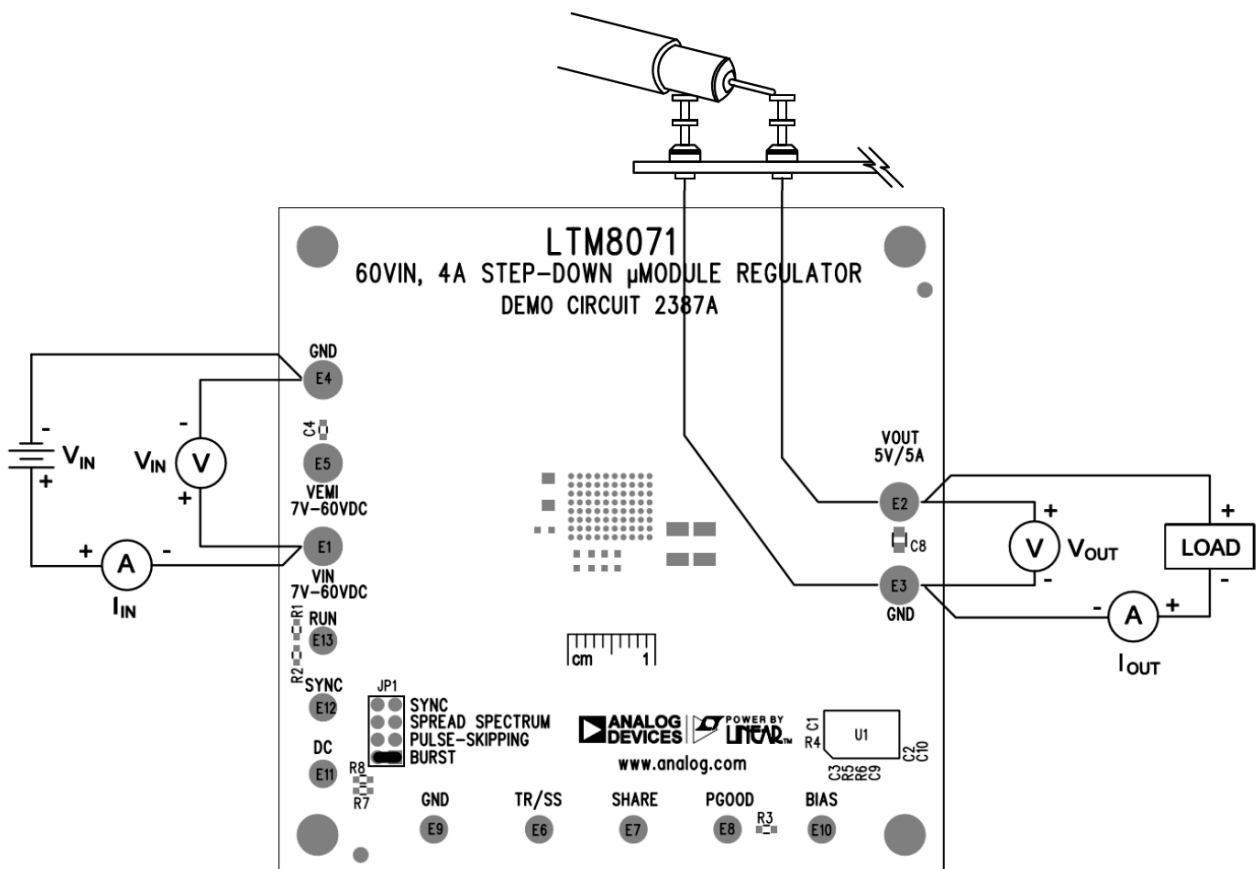

Figure 1. Test Setup of DC2387A
Demonstration circuit 2387A provides an easy way to evaluate the performance of the LTM8071EY. Please refer to Figure 1 for test setup connections and follow the procedure below.
3. With power off, connect the load, input voltage supply and meters as shown in Figure 1.
Output voltage ripple should be measured across the output turrets as shown in Figure 1.